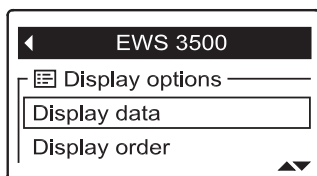

FIG. 118
3. Press the DOWN (▼) button to scroll through the menu options until **Display data** is highlighted in a box (See Figure 118).
8. When selections are complete, exit this menu by pressing the LEFT (◀) button. The display will go back to the device menu (Figure 118).